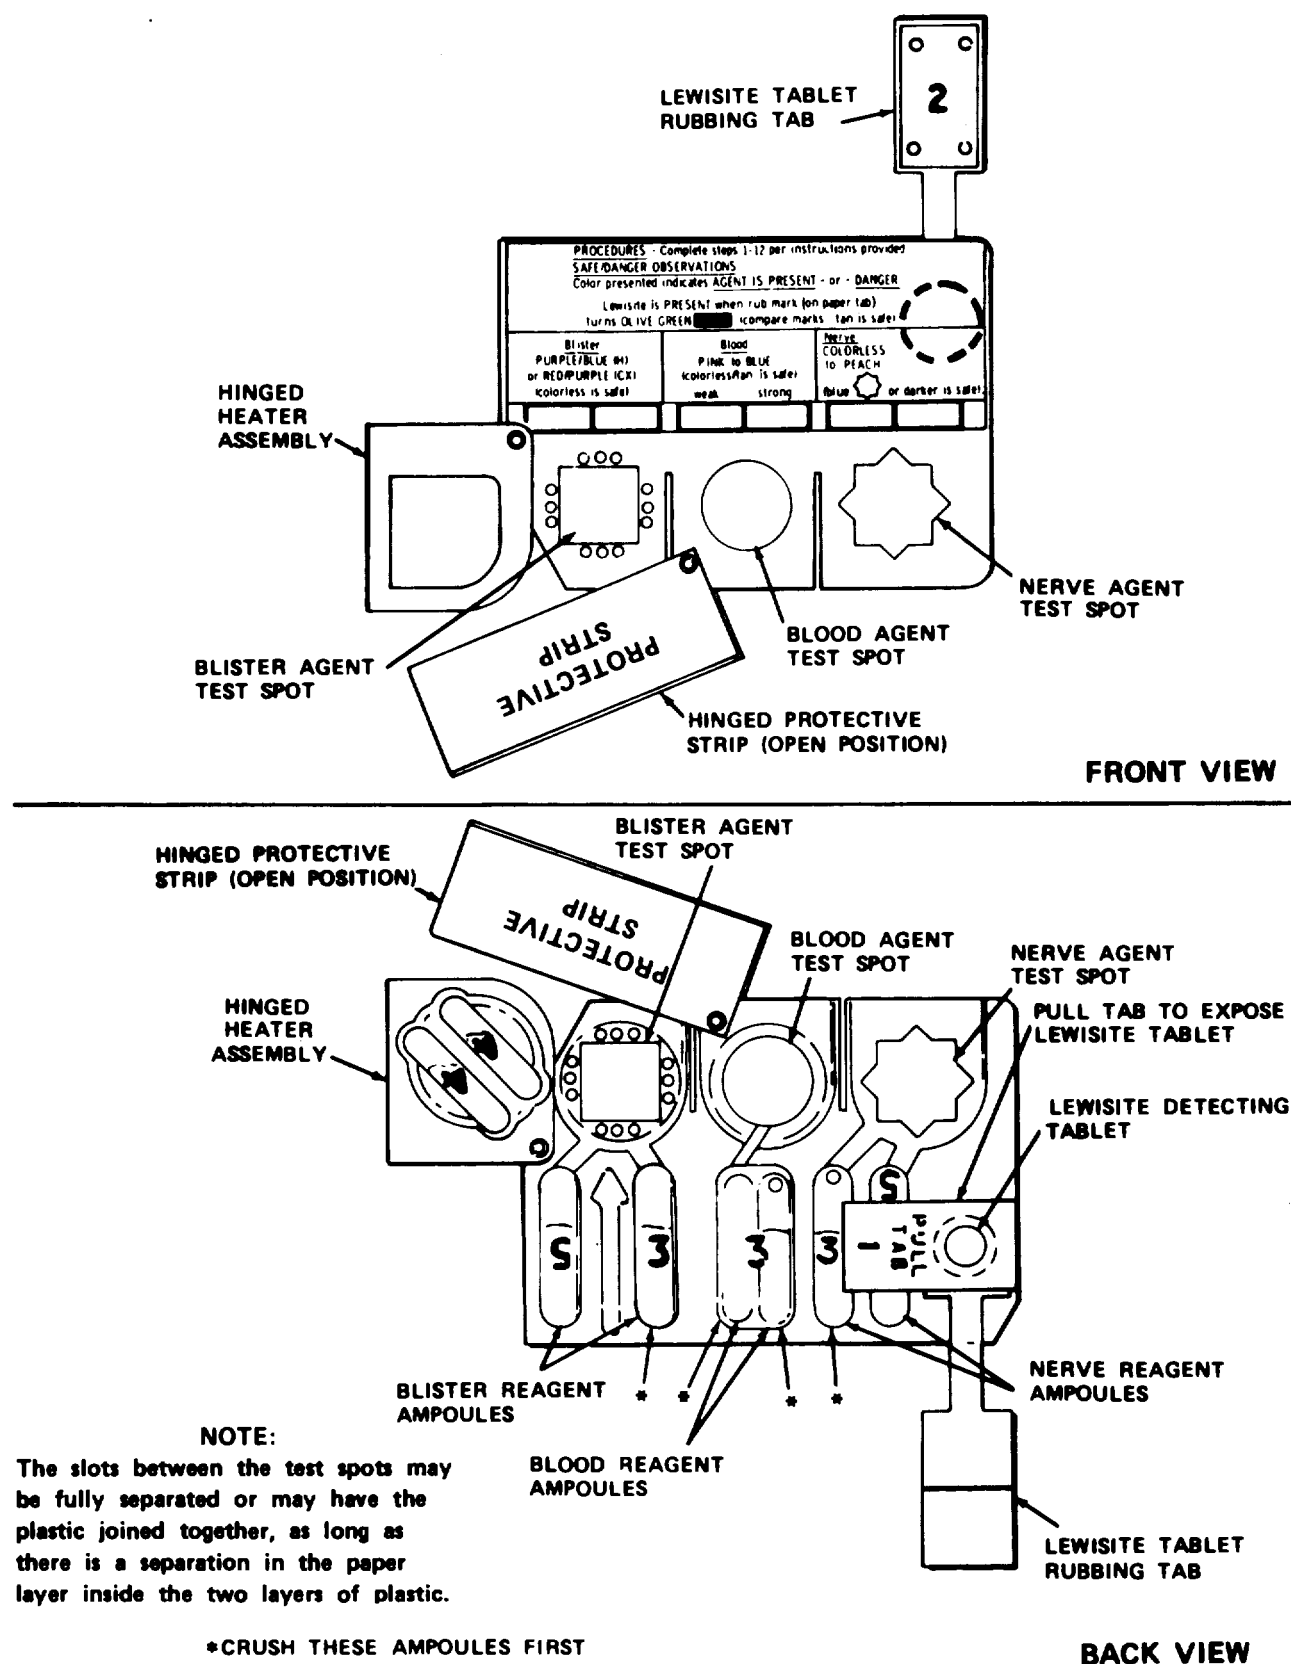

Figure 2-2. M256 Training Sampler-Detector.
(3) Identification and informational data. The sampler-detector (fig. 2-2) is stamped "FOR TRAINING ONLY" in blue and has an associated code number (fig. 2-1) to identify the specific response the sampler-detector should simulate. The M256 Training Simulator contains a card (Instructor's Information Card) which would be available only to the instructor/trainer. This card describes the number code and contains suggestions for use of the M256 Training Simulator.
(4) Operational instruction cards. Use to operate the M256 Training Simulator.
c. *The Sampler.* Study (fig. 2-2) carefully and become familiar with the location of all parts of the sampler.
(2) Carefully remove the sampler-detector from the protective bag. Retain the protective bag for reference to the instructions written on it.
(3) Handle sampler-detector carefully. Hold the sampler-detector by the hinged protective strip (fig. 2-2), in closed position covering the spots.
(4) Swing the hinged heater assembly away from the test spot; remove and save the two heater pads under the hinged heater assembly.
(5) Pull off and discard the pull tab (marked 1) to expose the lewisite detecting tablet.
(6) Rub the top half of white paper side of the lewisite tablet rubbing tab (marked 2) on the lewisite detecting table. Repeat rubbing until a mark is visible.
(7) Hold the sampler-detector in the vertical position so that the arrow points up.
(8) Using the two heater pads, finger-crush the four reagent ampoules in the three center pockets (marked 3). The ampoules to crush are indicated by asterisks on figure 2-2.
(c) Carefully remove sampler-detector (fig. 2-2) from the protective bag.
(j) Using the two heater pads, finger-crush the four reagent ampoules in the three center pockets (marked 3). The ampoules to crush are indicated by asterisks on figure 2-2.